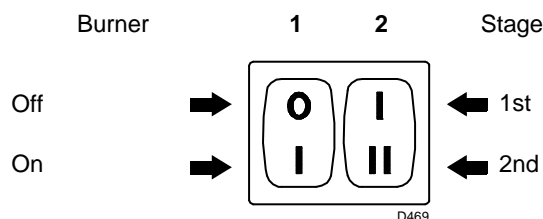
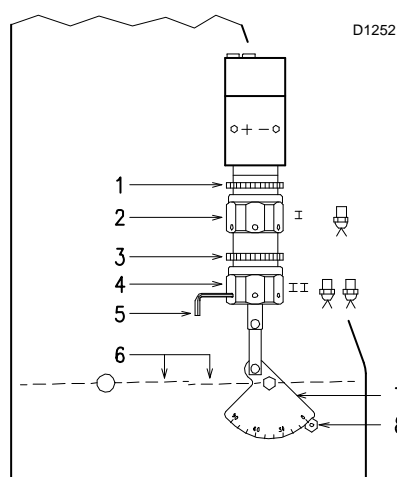

Fig. 20
Fig. 21
- Start the burner by closing the control devices and with switch 1) (Fig. 20 pag. 18) in the "ON" position. The pump must rotate in the direction of the arrow marked on the cover.
- The pump can be considered to be primed when the light oil starts coming out of the screw 3). Stop the burner: switch 1) (Fig. 20 pag. 18) set to "OFF" and tighten the screw 3).
Set switch 1) (Fig. 20) to "ON".
Keep the burner operating at 1st stage by setting the switch 2) (Fig. 20) to the 1st stage position. Opening of the air gate valves 6) (Fig. 21) must be adjusted in proportion to the selected nozzle: the index 8) (Fig. 21) must be aligned with the notch indicated on the graduated sector 7) (Fig. 21). This adjustment is achieved by turning the hex element 2) (Fig. 21):
Set switch 2) (Fig. 20 pag. 18) to the 2nd stage position and adjust the air gate valve 6) (Fig. 21) by turning the hex element 4) (Fig. 21), after having loosened the ring nut 3) (Fig. 21).
in order to facilitate adjustment of hex elements 2) and 4) (Fig. 21), use a 3 mm Allen key 5) (Fig. 21).